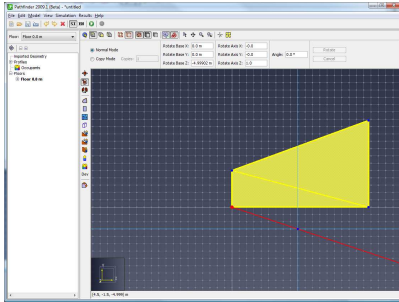

Figure 135. Base point of rotation
- The first specifies the base of rotation (Figure 135).